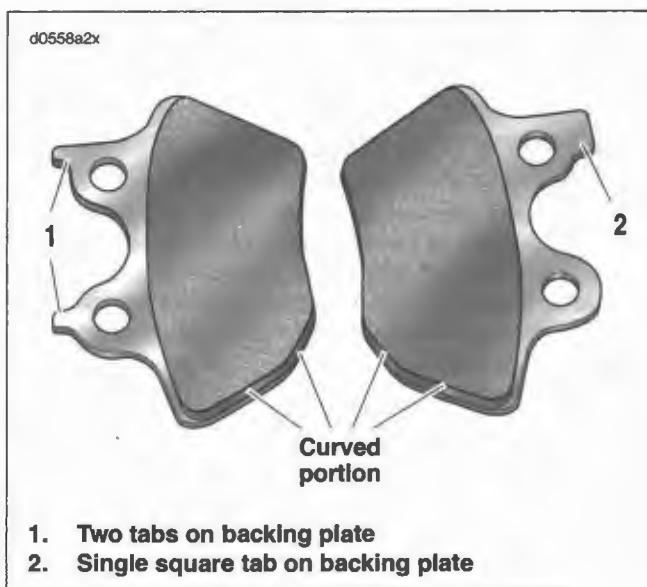

Figure 2-67. Brake Pad Alignment
See Figure 2-67. Install pad with two tabs (1) on the inboard side of the rear caliper.